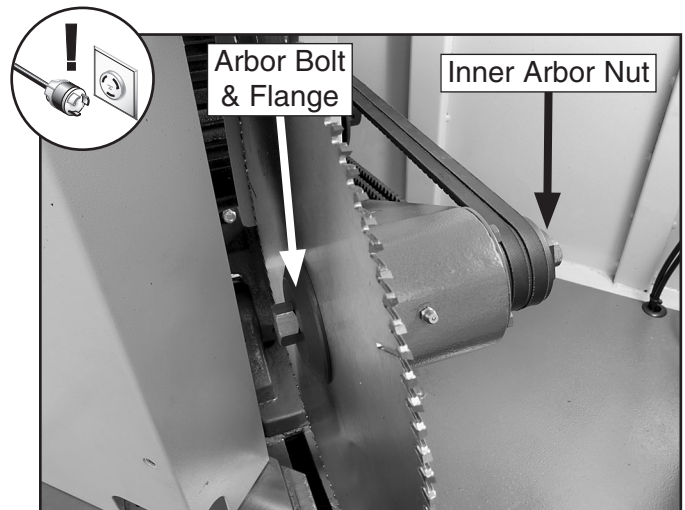

Figure 40. Blade arbor bolt, flange, and nut (left side shown).
3. Use a 14mm wrench on the inner arbor nut (see **Figure 40**) and a 19mm wrench on the arbor bolt to remove the arbor bolt, arbor flange, and saw blade.